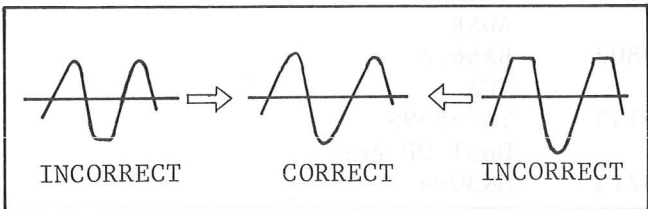

Fig. 41
- Adjust BIAS VR1 (CHORUS BOARD) so that top and bottom portions of waveform are not clipped. (Fig. 41)
- Adjust BIAS VR2 (CHORUS BOARD) so that top and bottom portions of waveform are not clipped. (Fig. 41)